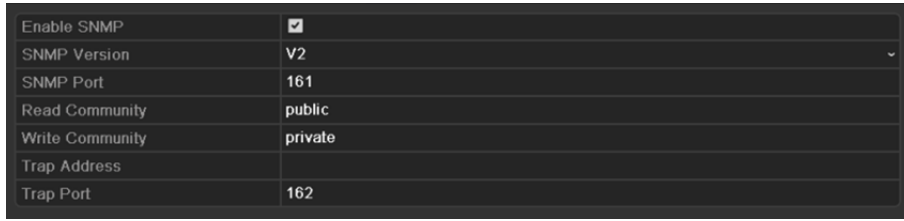

Figure 10-7 SNMP Settings Interface
Step 2 Select the **SNMP** tab to enter the SNMP Settings interface, as shown in Figure 10-7.